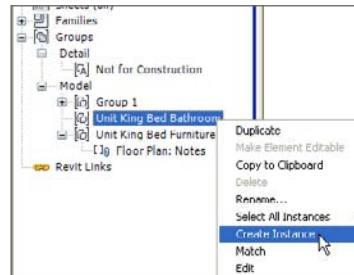

Figure 8.8
- You can right-click a group in the Project Browser and select Create Instance (refer to Figure 8.8).